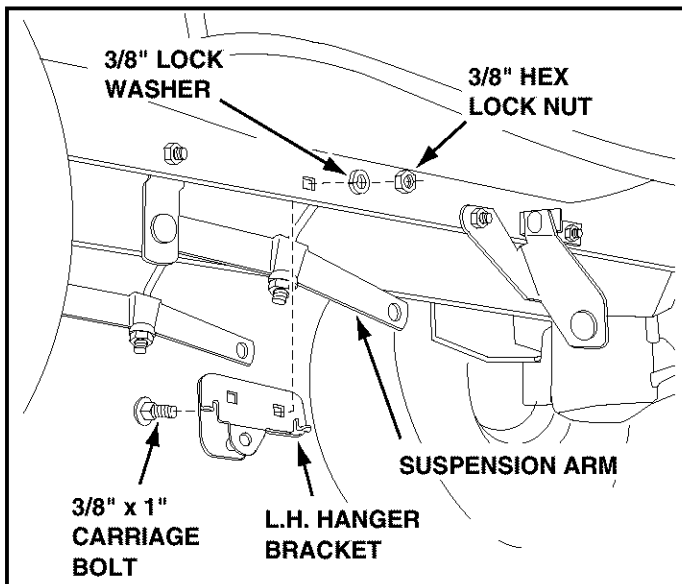

FIGURE 8 LEFT SIDE VIEW
### On Tractors Without Foot Rest Brackets (Figure 8)
- Find the empty hole beneath the foot rest. Attach the L.H. Hanger Bracket (marked "L") to the inside of the frame using a 3/8" x 1" carriage bolt (head to inside), a 3/8" lock washer and a 3/8" hex lock nut. See figure 8. Repeat for the R.H. side.